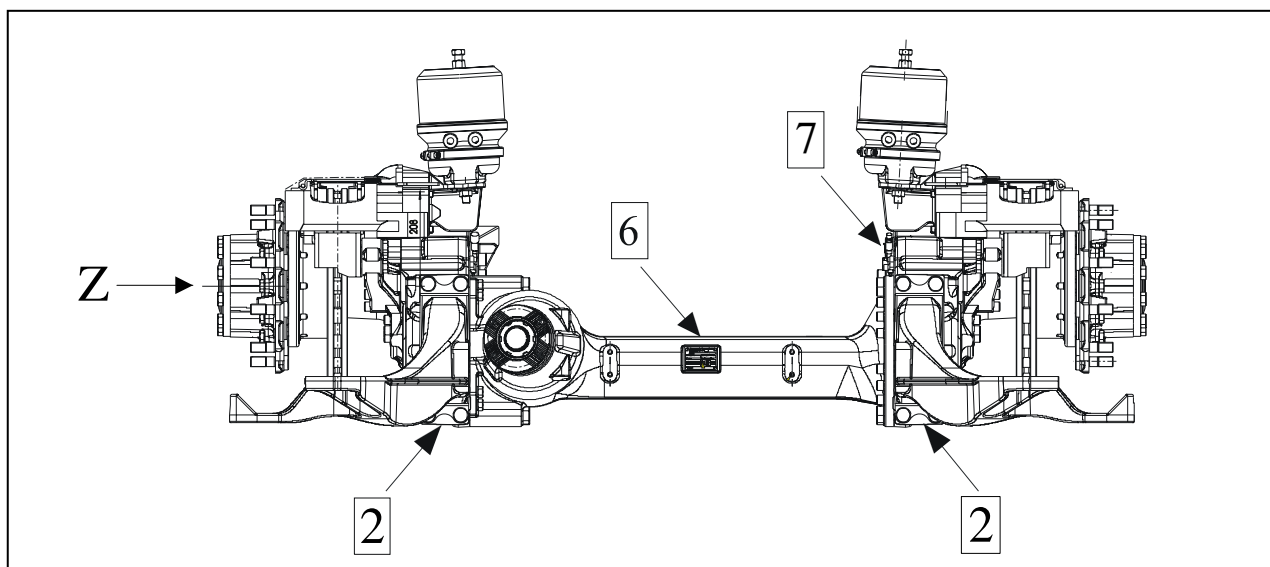

Figure 2
- (¹ No drain hole pos. 1 for axle housings of the new generation (see illustrated table 1/figure2)!
- (² No. pos. 3 for version with grease lubricated compact bearing!
- (³ For version with above center filler hole pos. 5, pos. 4 must only be used as oil level check hole!
- (⁴ With regard to the oil level, the markings on the housing and oil level check hole pos. 4 are binding!
- (¹) No drain hole pos. 1 for axle housings of the new generation (see illustrated table 1/figure2)!
- (²) No. pos. 3 for version with grease lubricated compact bearing!
- (³) For version with above center filler hole pos. 5, pos. 4 must only be used as oil level check hole!
- (⁴) With regard to the oil level, the markings on the housing and oil level check hole pos. 4 are binding!